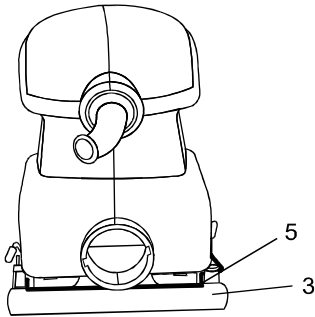

Fig. 4
3. Wrap sandpaper sheet (3) over backing pad and insert it into the open rear sandpaper clamp (5) (see Fig. 4).